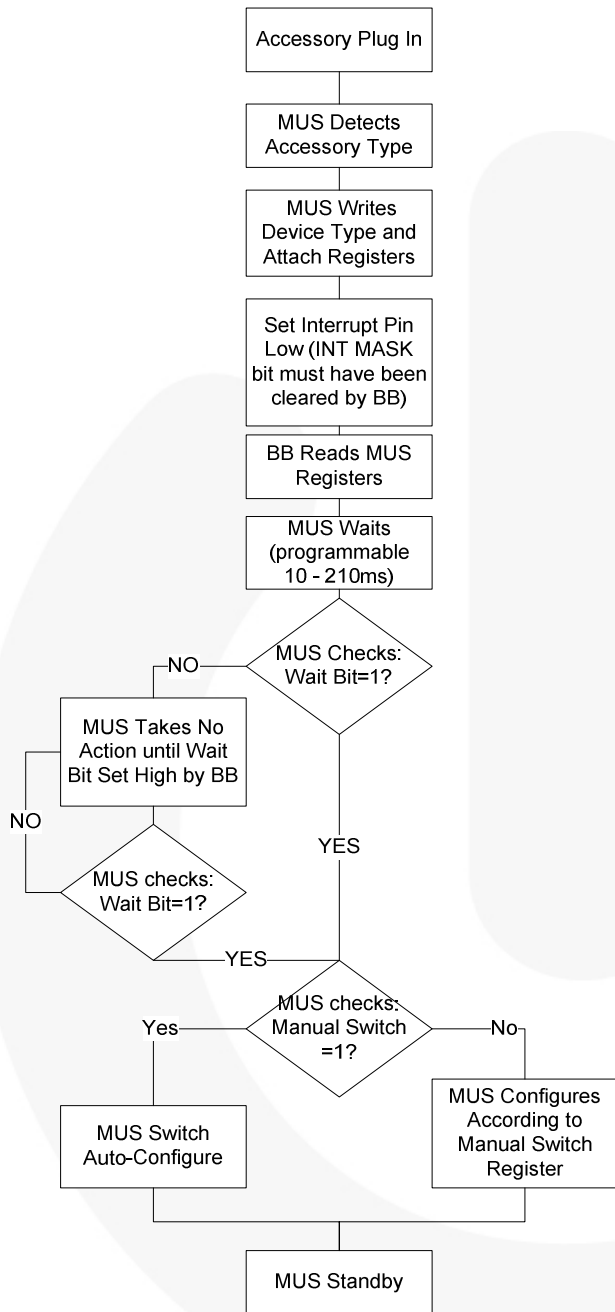
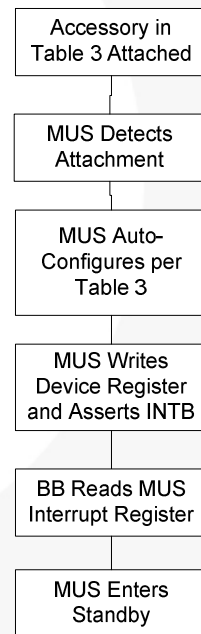

Figure 2. Accessory Detection Flow Chart (Except USB)
Figure 3. USB Detection Flow Chart
This block monitors the ID pin for accessory attach and detach. After determining which accessory has been attached, the detector block reports this back to the digital core, which sends an interrupt to the baseband. Upon detecting changes in the ID pin voltage, the ADC also writes the ADC value bits in the ADC Register. The baseband processor can then read the I2C registers and determine the appropriate action. The programmable wait time does not begin until after the baseband acknowledges the interrupt read. Figure 2 outlines the high-level accessory detection flow sequence for Samsung-specific accessories.
3. Figure 2 applies to all accessories except USB; see Figure 3 for the USB accessory detection flow.